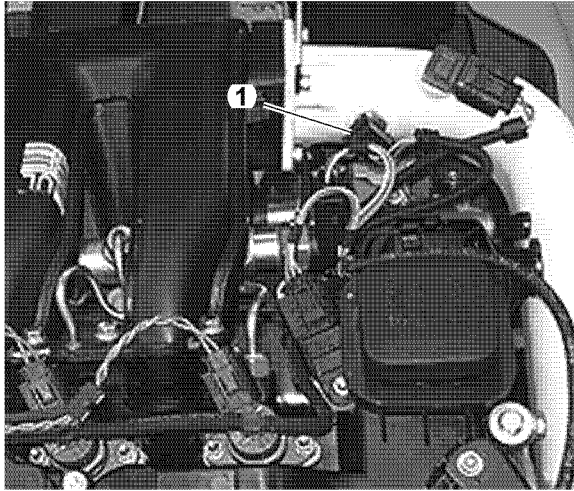

Figure 9-1
1. Remove charge air temperature sensor (1, **Figure 9-1**) from charge air intake pipe.